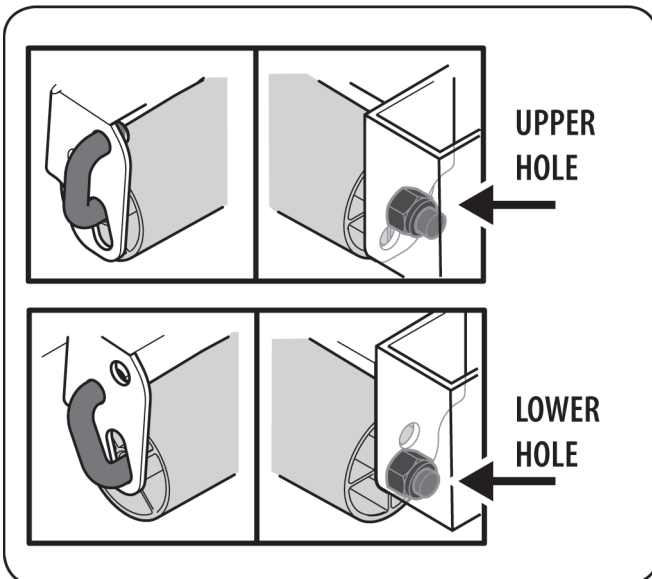

Figure 1-8
5. The roller can be adjusted to two different heights. To change the height of the striper kit, remove the Locknut and slide the pin out far enough to move it into the desired height setting on the right side of the bracket. Secure the hooked end of the pin and install the lock nut to lock into position. See Figure 1-8.